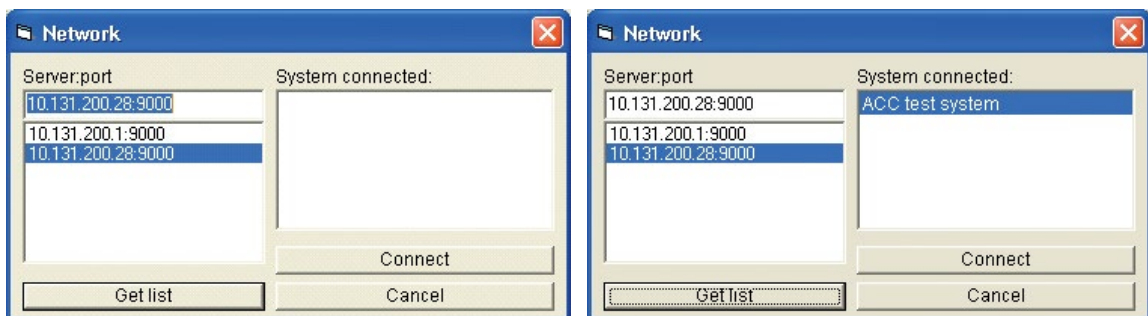

Figure 15 - Network
5. Insert the IP address into the “Server:port” text box or select one from the list as shown in Figure 15 and press the “Get list” button.